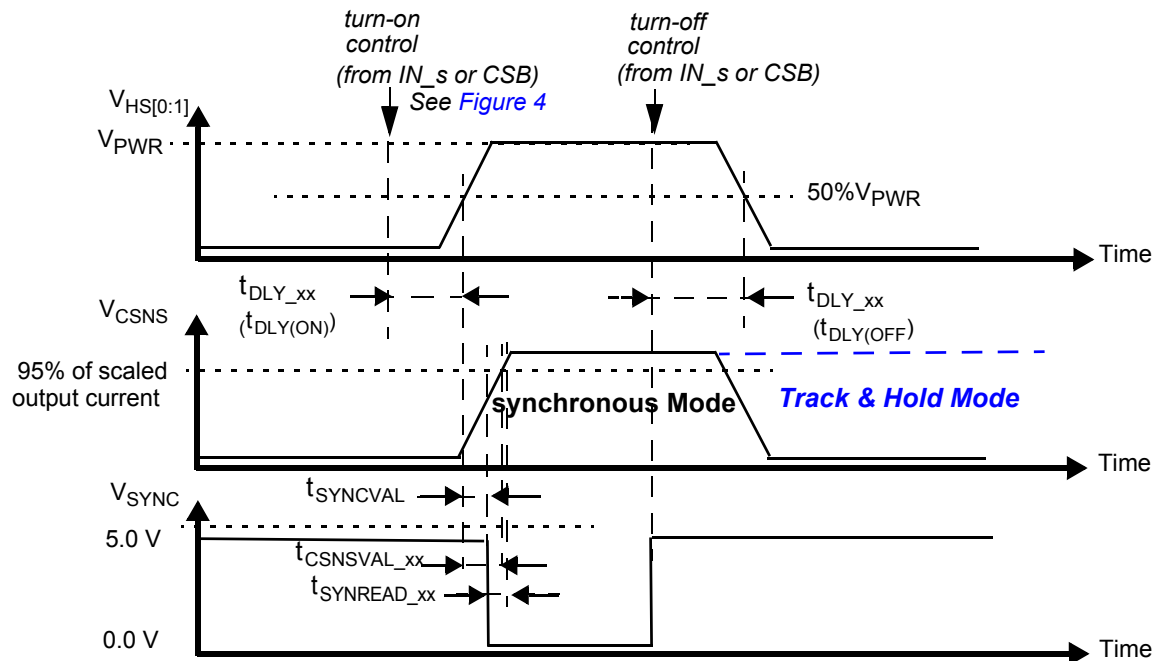

Figure 9. Synchronous & Track-and-Hold Current Sensing Modes: Associated Delay & Settling Times
34. Settling time ( =  $t_{\text{CSNSVAL\_xx}}$ ), SYNC output signal delay ( =  $t_{\text{SYNCVAL\_xx}}$ ) and Read-out delay ( =  $t_{\text{SYNREAD\_xx}}$ ) are defined for a stepped load current ( $100\text{ mA} < I(\text{LOAD}) < I_{\text{OCLX A FOR CSNS\_RATIO\_S}} = 1$ , AND  $300\text{ mA} < I(\text{LOAD}) < I_{\text{OCLX A\_0 FOR CSNS\_RATIO\_S}} = 0$ ). (see Figure 9 and Output Current Monitoring \(CSNS\))
The CS pin allows independent current monitoring of channel 0 or channel 1 up to the steady-state overcurrent threshold. It can also be used to sense the device temperature. The different functions are selected by setting bits CSNS1\_en and CSNS0\_en to the appropriate value (Table 23). When the CSNS pin is sensed during switch-off in the (optional) track & hold mode (see Figure 9), it outputs the scaled value of the load current as it was just before turn-Off. When several devices share the same pull-down resistor, the CSNS pins of devices, the current of which is not monitored, must be tri-stated. This is accomplished by setting CSNS0\_en = 0 and CSNS1\_en = 0 in their GCR register (Table 12). Settling time ( $t_{CSNSVAL\_XX}$ ) is defined as the time between the instant at the middle of the output voltage's rising edge ( $HS[0:1] = 50\%$  of  $V_{PWR}$ ), and the instant at which the voltage on the CSNS pin has settled to  $\pm 5.0\%$  of its final value. Anytime an overcurrent window is active, the CSNS pin is disabled (see Overcurrent Detection on Resistive and Inductive Loads). The current and temperature sensing functions are unavailable in Fail-safe mode and in Normal mode when operating without the  $V_{DD}$  supply voltage. In order to generate a voltage output, this pin requires a pull-down resistor ( $R(CSNS)=1.0\text{ k}\Omega$  typ. and  $470 < R(CSNS) < 10\text{ k}$ ). When the current sense resistor connected to the CSNS pin is disconnected, the CSNS voltage is clamped to  $V_{CL(CSNS)}$ . The CSNS pin can source currents up to about  $5.6\text{ mA}$ .
To synchronize current sensing with an external process, the SYNC signal can be connected to a digital input of an external MCU. An open-drain pull-down on SYNC indicates that the current sense signal is accurate and ready to be read. The current sense signal on the CSNS pin has the specified accuracy  $t_{SYNREAD\_XX}$  seconds after the falling edge on the SYNC pin (Figure 9) and remains valid until a rising edge is generated. The rising edge that is generated by the SYNC pin at the turn-OFF instant (internal or external) may also be used to implement synchronization with the external MCU. Parameter  $t_{SYNCVAL\_XX}$  is defined as the time between the instant at the middle of the output voltage rising edge ( $HS[0:1] = 50\%$  of  $VPWR$ ), and the instant at which the voltage on the SYNC-pin drops below  $0.4\text{ V}$  ( $V_{SOL}$ ). The SYNC pins of different devices can be connected together to save micro-controller input channels. However, in this configuration, the CSNS of only one device should be active at a time. Otherwise, the MCU is not be able to determine the source of the SYNC signal. The SYNC pin requires an external pull-up resistor to  $V_{DD}$ .